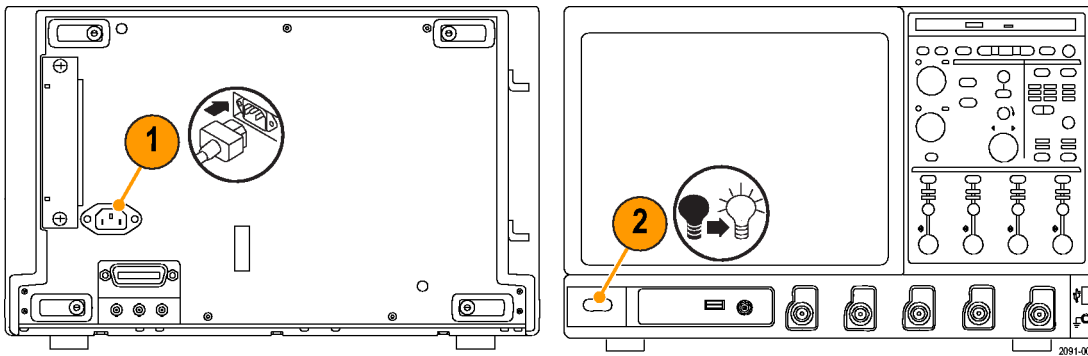

Figure 1-2: On/Standby switch location
2. Push the On/Standby switch to power on the instrument (see Figure 1-2 for the switch location).